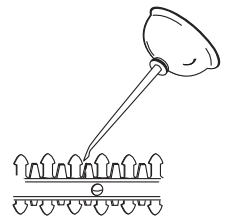

Fig. 7
- Apply light machine oil along the edge of the top blade (Fig. 7).